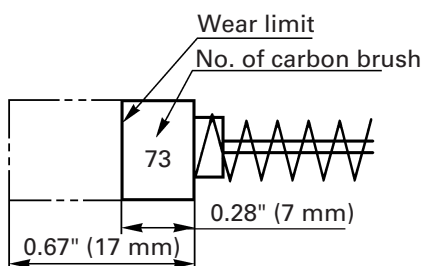

Fig. 20
## 4. Inspecting the carbon brushes: (Fig. 20)
**NOTE:** Use HITACHI carbon brush No.73 indicated in Fig. 20